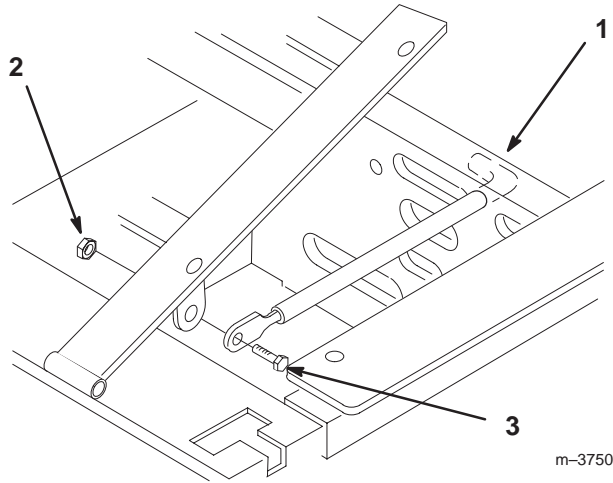

Figure 3
1. Tilt the seat up. Remove the locknut (5/16 in.) from bolt attaching seat retaining rod to seat frame (Fig. 3).
2. Remove retaining rod from seat and insert the L shaped end of the rod into the hole directly above the left-side hydraulic pump (Fig. 3).
3. Place the seat retaining rod to the outside of the mounting tab of the seat frame and secure with a bolt (5/16 x 1 in.) bolt and locknut 5/16 in. (Fig. 3).